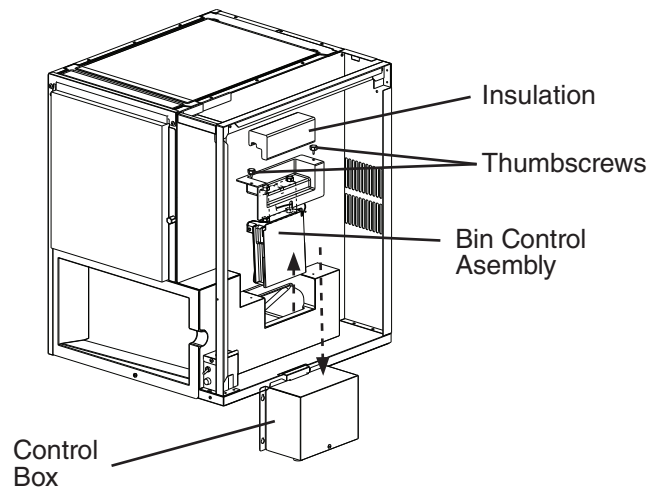

Fig. 1
- a. Loosen the screws securing the control box, then lift the control box off and hang it from the base. See Fig. 1.